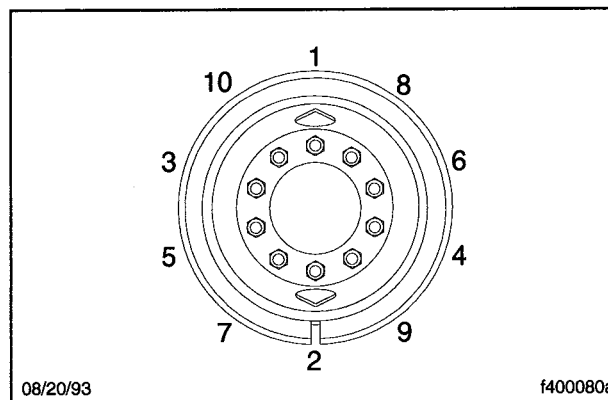

Fig. 8, 10-Stud Disc Wheel Tightening Sequence
- 7.6 Install and hand-tighten the remaining two-piece flange nuts. Tighten the nuts 50 lbf-ft (68 N·m) following the sequence in **Fig. 8**.
- 7.8 Following the sequence in **Fig. 8**, tighten the two-piece flange nuts 450 to 500 lbf-ft (610 to 678 N·m).
Too little wheel nut torque can cause wheel shimmy, wheel damage, stud breakage, and extreme tire tread wear. Too much wheel nut torque can break studs, damage threads, and crack discs in the stud hole area. Use the specified torque values, and follow the tightening sequence in Fig. 8.
- 7.10 After operating the vehicle for 50 to 100 miles (80 to 160 km), retighten the wheel nuts 450 to 500 lbf·ft (610 to 678 N·m). Follow the sequence in **Fig. 8**.